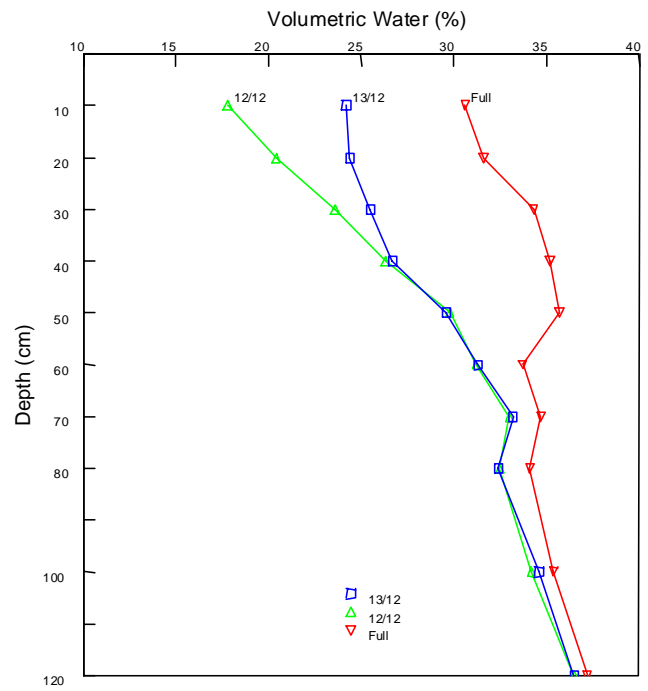

Figure 3. Reduced infiltration after 2nd irrigation
- At the second irrigation, the above result got worse with only 24 mm infiltrating. (Figure 3).